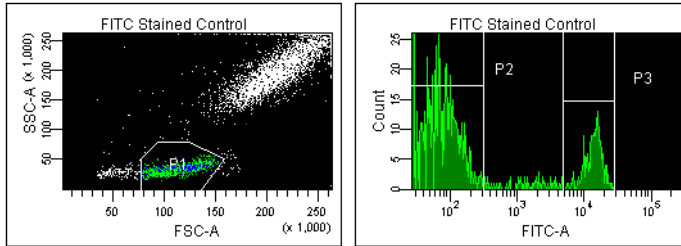

Figure 4-10 Gating the positive population
- 8 Create an Interval gate around the fluorescence-negative and -positive populations on the histogram (Figure 4-10 on page 128).